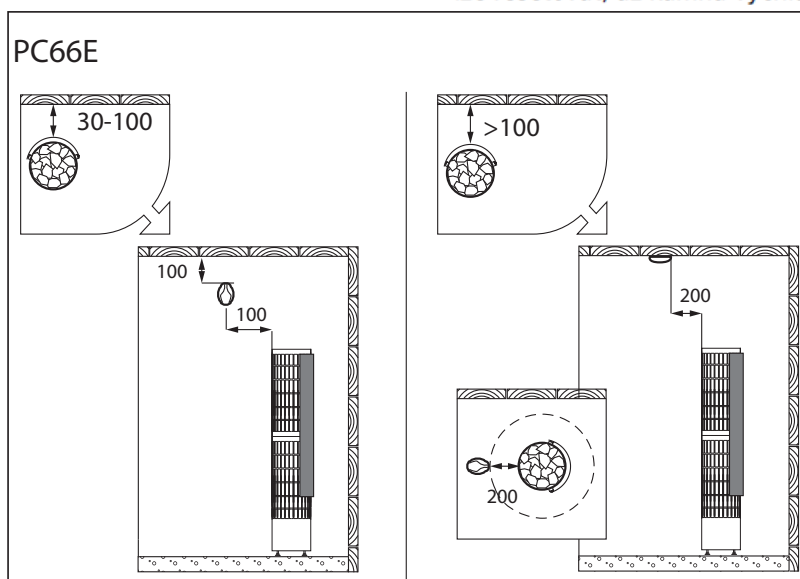

Figure 9. Installing the sensor (all dimensions in millimeters)
- Install the sensor (WX255) as shown in figure 9. If the heater is installed further than 100 mm from wall, the sensor must be installed on the ceiling.